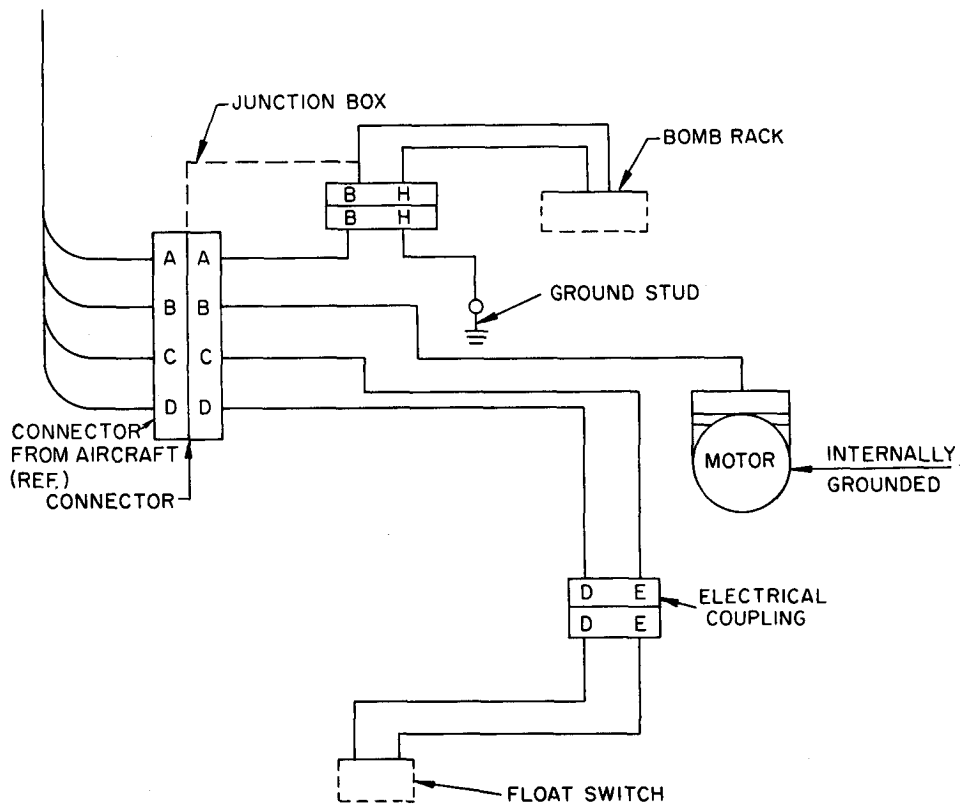

Figure 3. Wiring diagram.
Remove junction box by removing machine screws which fasten junction box cover. Unsolder wire connections in junction box (fig. 3). Tag disconnected wire to insure proper reassembly. Disconnect bomb rack connector. Remove screws (22) and washers (23) which fasten box to beam assembly, and carefully slide box free of conduit tubes (3) and (7).